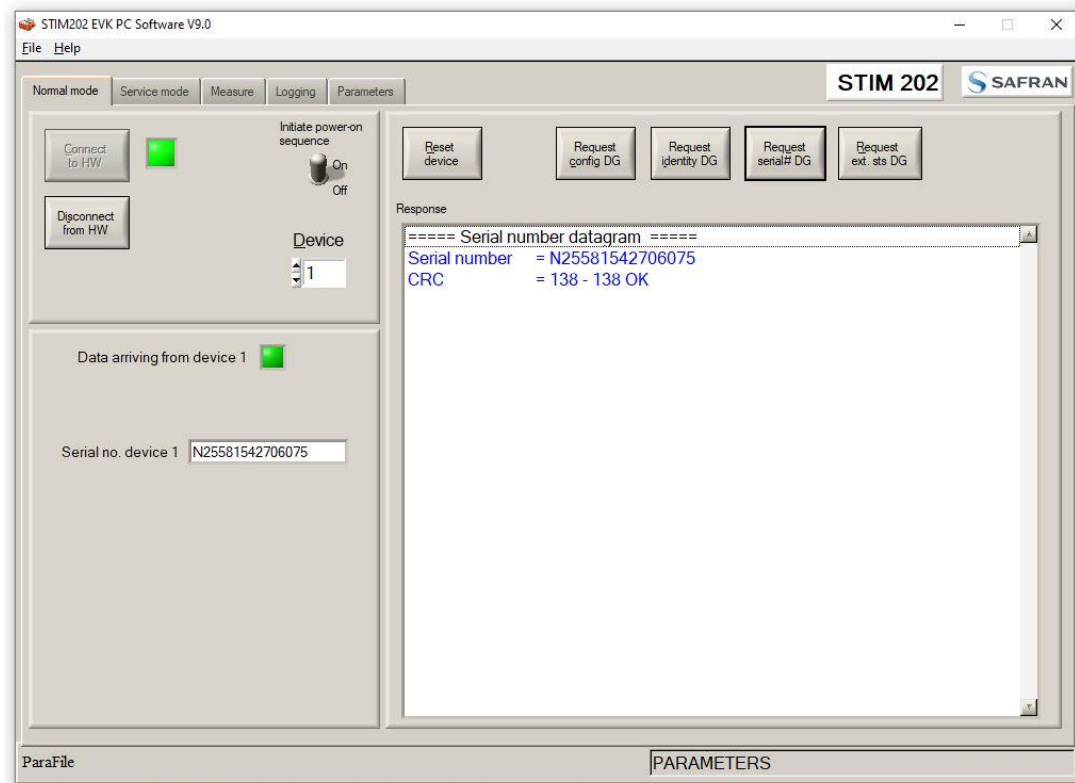

Figure 22: Result of sending 'Request serial DG' to the gyro module
10. A green LED (Data arriving from device n) indicates that data is received from the gyro module(s). Verify the communication to module by clicking on the 'Request serial# DG' button. An example of such a result is shown in Figure 22. The system is now ready for use